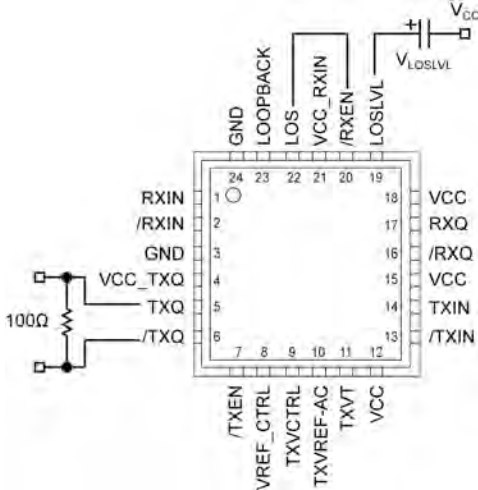

Figure 2a. Voltage Source Implementation
The SY58621L features a chatter-free Loss-of-Signal (LOS) TTL compatible output with an internal 4.75kΩ pull-up resistor. LOS circuitry monitors the input receiver signal and asserts a signal when the input signal falls below the threshold set by the programmable LOS level set pin (LOSLVL). When the amplitude of the receiver input signal falls below the threshold, LOS is asserted HIGH with a response time of ~0.2μs. LOS can be fed into /RXEN to maintain output stability by disabling the output during a Loss-of-Signal condition. Figure 2a and 2b shows the LOS connection to /RXEN. When /RXEN is HIGH, the output signal RXQ is held LOW and /RXQ is held HIGH. Typically, 2dB of LOS hysteresis is adequate to prevent the receiver output from chattering. LOS operation is optimized for data rates  $\geq 622$ Mbps with an input receiver amplitude of at least 10mV (20mVPP). Due to the long time constant in slower data rates below 622Mbps, the SY58621L LOS function does not guarantee chatter-free operation for low amplitude signals.
LOS detection trip-point by setting up a voltage divider between VCC and VREF (an internal voltage source set at VCC-1.3V), since there is a 2.8kΩ internal resistor connected between LOSLVL and VREF. The input voltage range of LOSLVL ranges from VCC to VREF. See the “Functional Block Diagram” section and Figures 2a and 2b, to see how R\_LOSLVL sets up a voltage divider between VCC and VREF. See the “LOS Output DC Electrical Characteristics” table and “Typical Operating Characteristics” section to see how different R\_LOSLVL values affect LOS sensitivity.
- Connecting the input /RXEN to the LOS output as shown in Figures 2a and 2b, maintains receiver output stability under a Loss-of-Signal condition